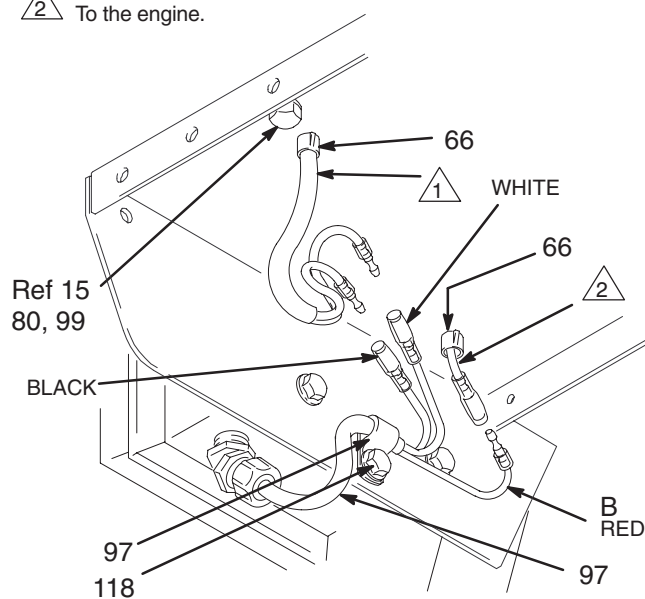

Fig. 16
2. See Fig. 16 and 17. Disconnect the red wire from the engine lead (B). Disconnect the black and white wires from the field. Loosen the clamp (97). Pull the wires carefully through the grommets (66) before removing the engine. Remove the two locknuts (111) and then pull the screws (14) out of the base of the engine.